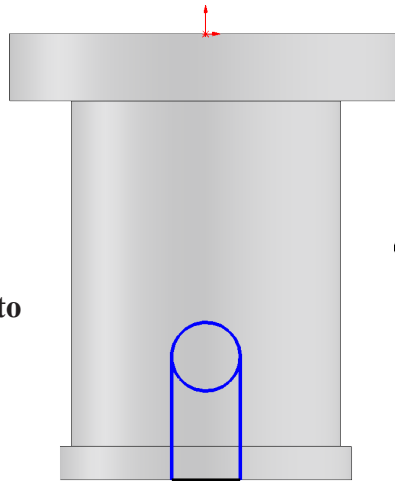

Fig. 14
Step 7. Click **Line**  (L) on the Sketch toolbar.
Step 8. Sketch line from circle quadrant point down to bottom edge of Revolve across edge and back up to quadrant point, Fig. 14.
Step 9. Click **Smart Dimension**  (S) on the Sketch toolbar.